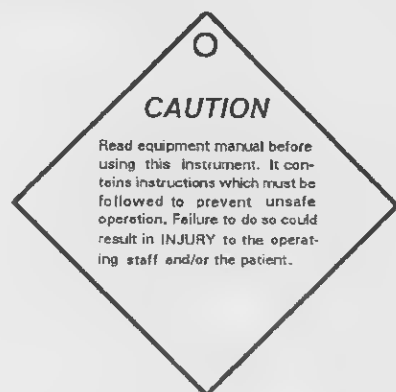

Figure 1-12. Caution tag.
(4) A caution tag (fastened on the back of the APS) providing information about the use of the APS is depicted in figure 1-12.